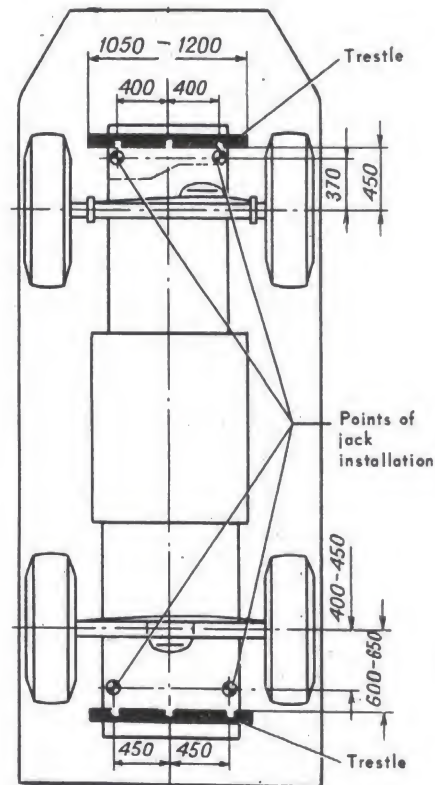

FIG. 54. POSITION OF JACKS AND TRESTLES WHEN JACKING-UP BP/DM-2 VEHICLE
1. Install two jacks supported by the wooden bars under the hull close to the axle bay (front or rear) so that the jacks do not hamper installation of the trestles. Places for installation of the jacks and trestles are shown in Fig. 54.